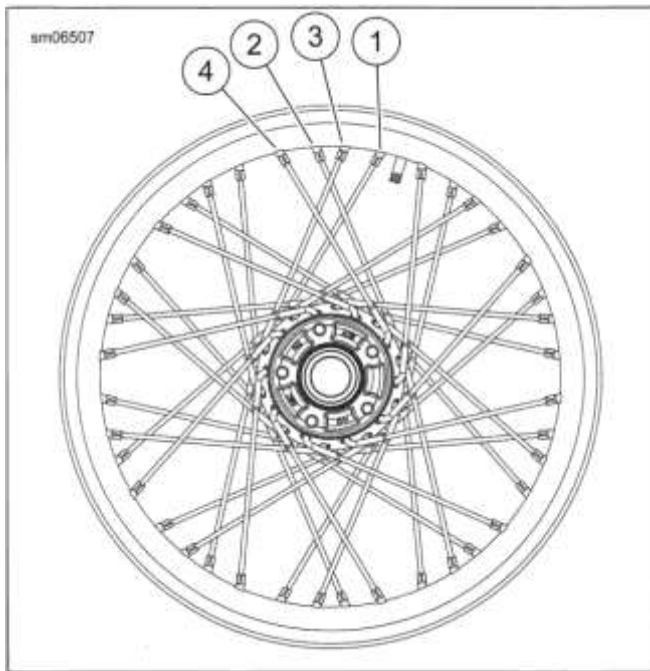

**Figure 3-11. Side Valve Rim**
- a. **Rim with side valve hole:** See Figure 3-11. Start at the valve stem hole (1).